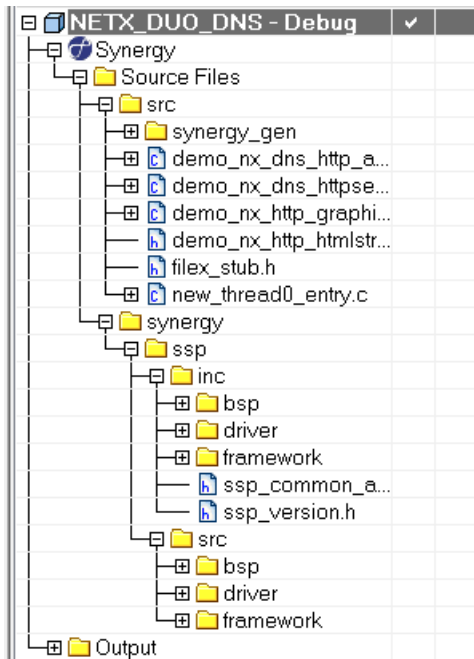

Figure 1.10 Synergy Configuration tabs
6. The project should resemble the folder structure as shown in Figure 1.10.